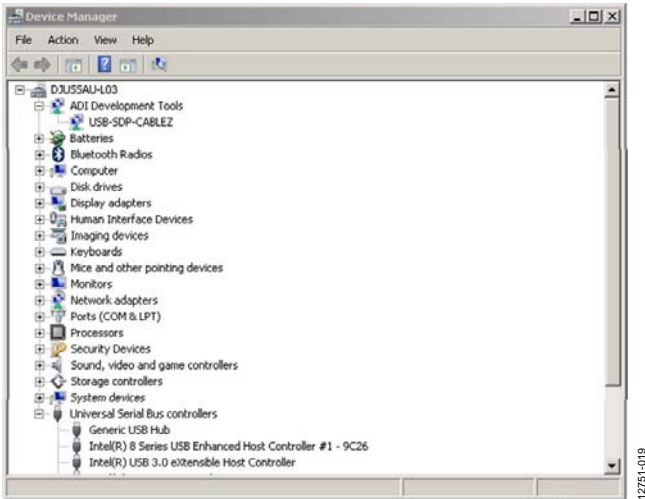

Figure 5. **Device Manager** Window
3. Within **Device Manager**, expand **ADI Development Tools** to verify that **USB-SDP-CABLEZ** is shown (see Figure 5). If **USB-SDP-CABLEZ** appears under **Device Manager**, this verifies that the **USB-SDP-CABLEZ** I²C dongle is properly connected to the USB port and that the hardware installation is complete. The user can begin operation of the evaluation system.